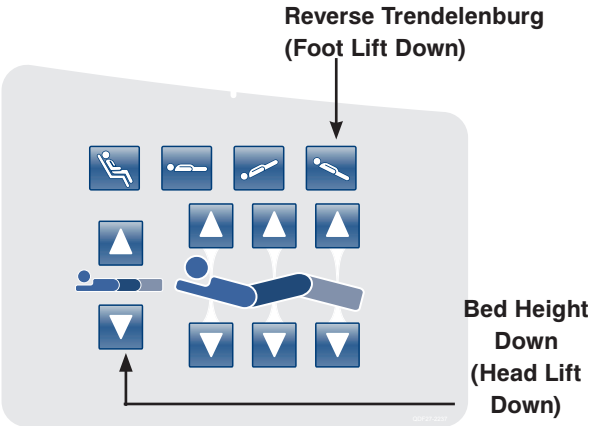

Figure 7: HE Siderail Control Panel - (Right Side Shown)
- 7. Lower the bed to the lowest position. Press the **Bed Height Down (Head Lift Down)** and **Reverse Trendelenburg (Foot Lift Down)** buttons simultaneously as shown in Figure 7.